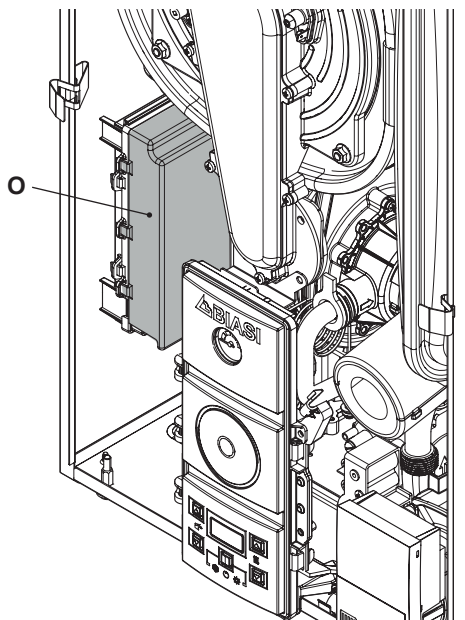

Fig. 6.16
- Identify the terminal block cover lid "O" (Fig. 6.16) and open it.